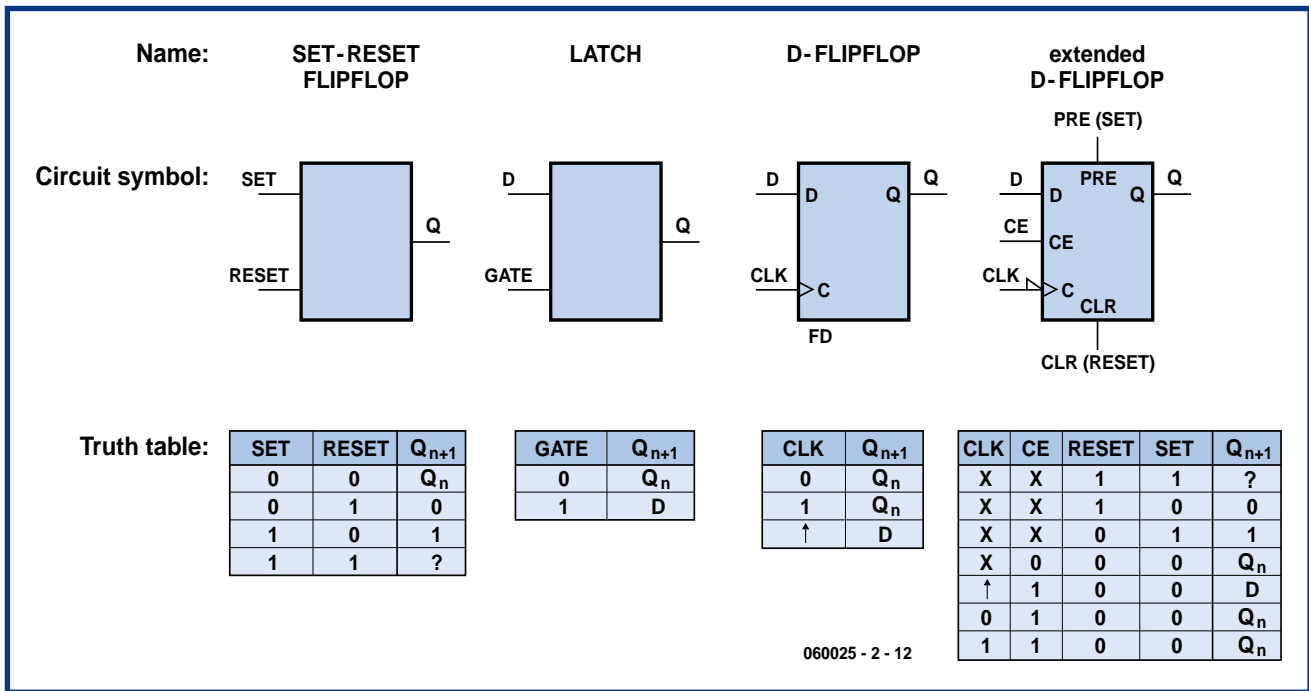

Figure 2. Various types of flip-flops and their truth tables.
A slightly more advanced form of flip-flop is the type known as a 'latch'. Its truth table is shown in Figure 2. This type of flip-flop has two inputs – D ('data') and Gate – and one output (Q). The Q output is the same as the D input as long as the Gate input is '1'. When the Gate input goes to '0', the Q
The D-type flip-flop can be expanded with a variety of additional inputs. **Figure 2** shows such an expanded D-type flip-flop. It has three inputs in addition to the D and CLK inputs: SET, RESET and CE. The SET and RESET inputs perform the same functions as with an SR flip-flop. The clock enable (CE) input of this flip-flop controls the response to the clock signal: a rising edge on the CLK input has no effect if the CE input is not in the High state.